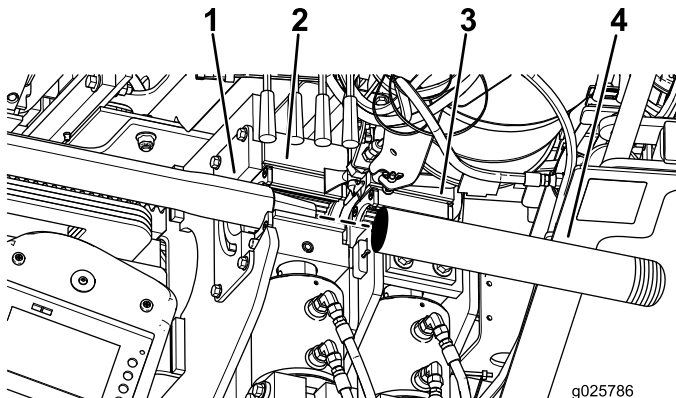

Figure 86
4. Pull the drill pipe and lead bar back through the pipe guide and into the wrenches, aligning the thickened upper joint of the lead bar with the upper wrench (Figure 86).